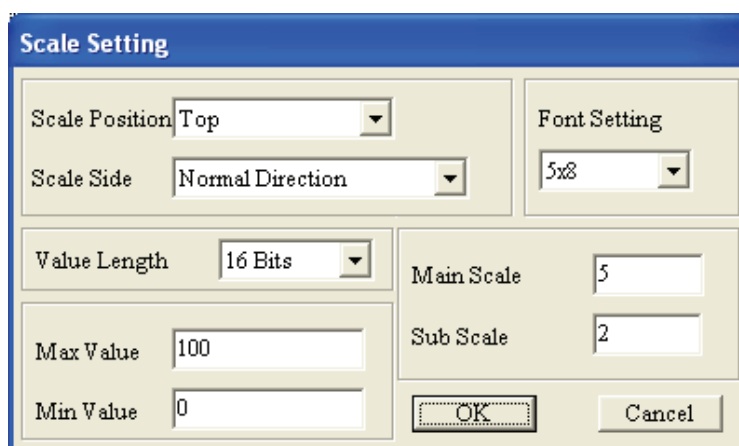

Figure 1-79
Step 1. Choose **Object(O) > Scale(S)** command from the menu bar or click the icon  on the Toolbar. Then, move the mouse on the editing screen area, the cursor will be a +. Left click and drag the mouse in the editing screen area. After releasing the mouse, the square  will be made on the screen. Double-click the square  by using the mouse, the following Scale Setting tab will pop up (Figure 1-79).